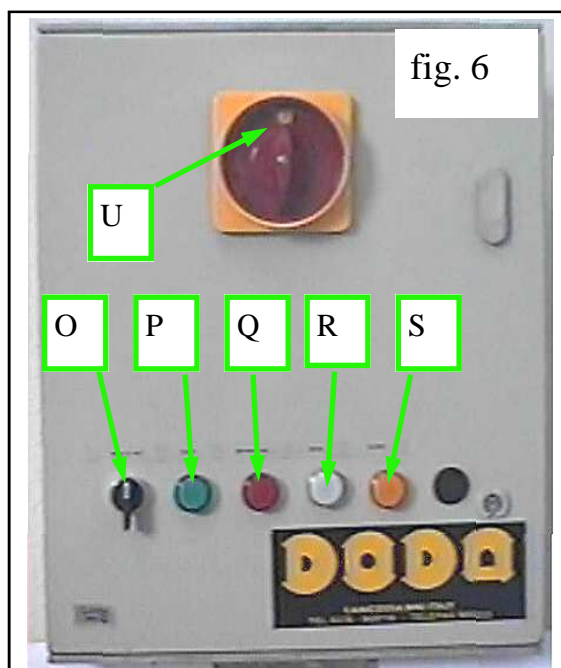
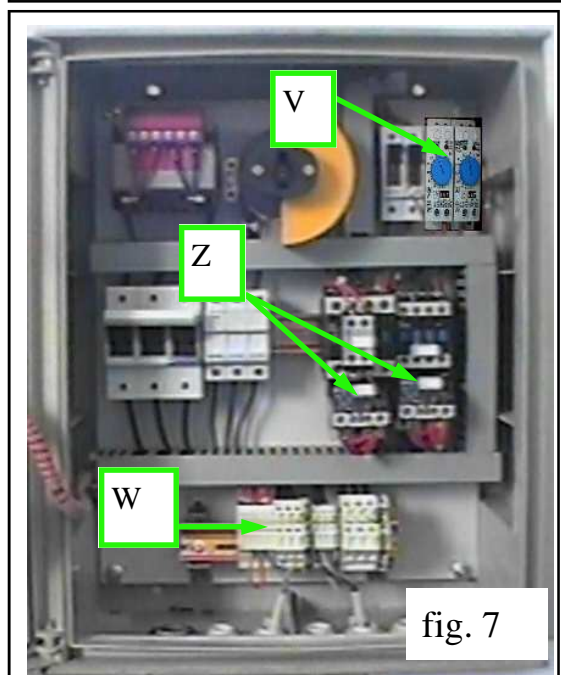

fig. 6
fig. 7
1) Open electric board **fig. 6** and connect the electric supply cables in the suitable terminal board **W fig. 7**.
3) Turn the main switch **U** knob from **zero** position to **one fig. 6** only for one second, then put it again to zero ( check if the rotation direction of the electric motor is correct: see sticker on the back).
**8) TIMER SETTING:** synchronize and arrange the timers for automatic machine washing. The switchboard, ( see detail V **fig. 7**) consist of two regulators:
- put "Manual/Automatic" knob **O** **fig. 6** on Manual position, with only one shift; then the cycles programmed by the timers start.
In both cases, if washing has not been satisfactory restart it simply by turning the “Manual/Automatic” knob **O** **fig. 6** on Manual position - with only one shift.
Time-schedule is directly indicated on timers **V** **fig. 7**. Following figure **13**, after the feeding pump has stopped, the separator will go on working for ten seconds more (first timer); then washing will come into operation for eight minutes (second timer).
- Check the pump rotation way and the degree of over heat protection (absorbed amperage). Then regulate the device illustrated in figure **14** (also see **Z** **fig. 7**) based on absorption of the feeding pump motor as well as on the separator motor.
Rotate main switch **U** **fig. 6** to position **One** and knob **O** to “Automatic”. Now, *if the feeding pump is provided with a level probe* the pump feeding can start.
In case you want to stop the cycle, in any time, turn knob **O fig. 6** to Manual:
- turn main switch **U fig. 6** to **One**
- to stop the plant, turn knob **O fig. 6** in central position